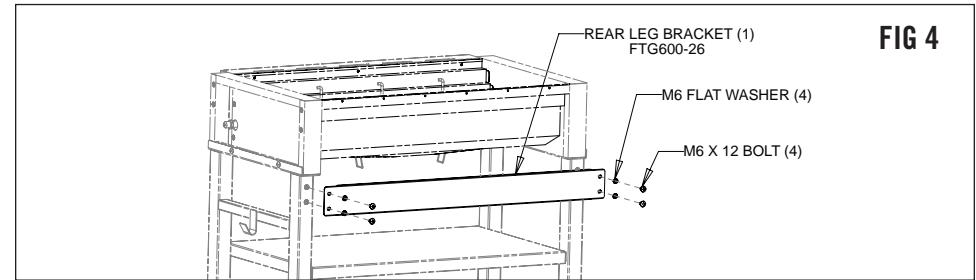

FIG 4
12. Install rear leg bracket as shown in Figure 4.